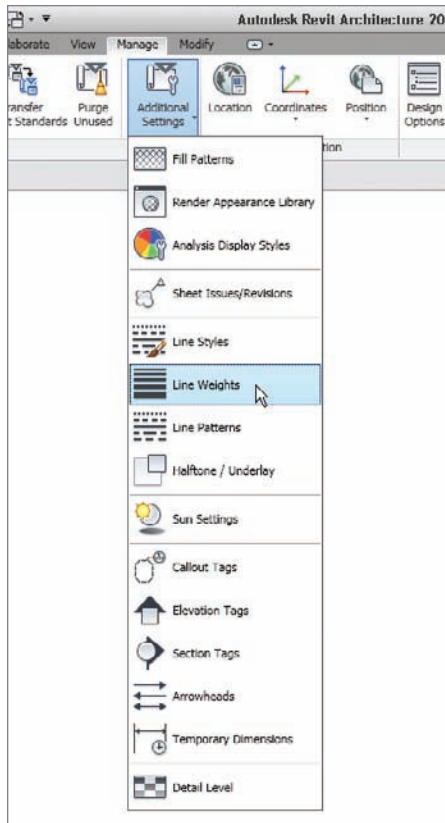

FIGURE 23.7 Clicking Additional Settings > Line Weights
1. On the Settings panel of the Manage tab, click Additional Settings > Line Weights, as shown in Figure 23.7.